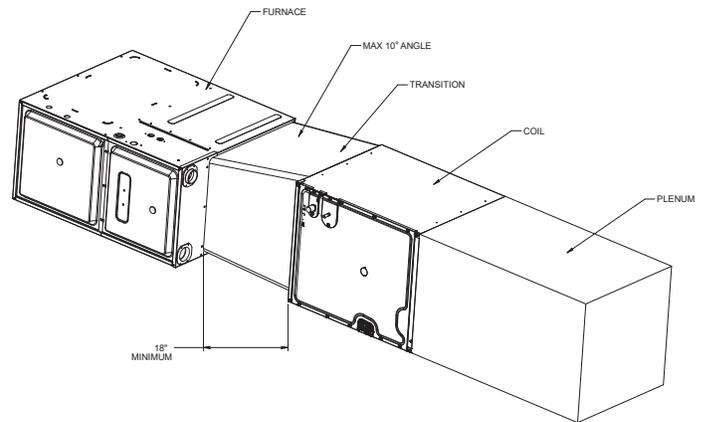

Figure 5E
3. Optionally a transition duct can be used to attach the coil with furnace, if z-bracket is not preferred to be used (see Figure 5E and 5F).